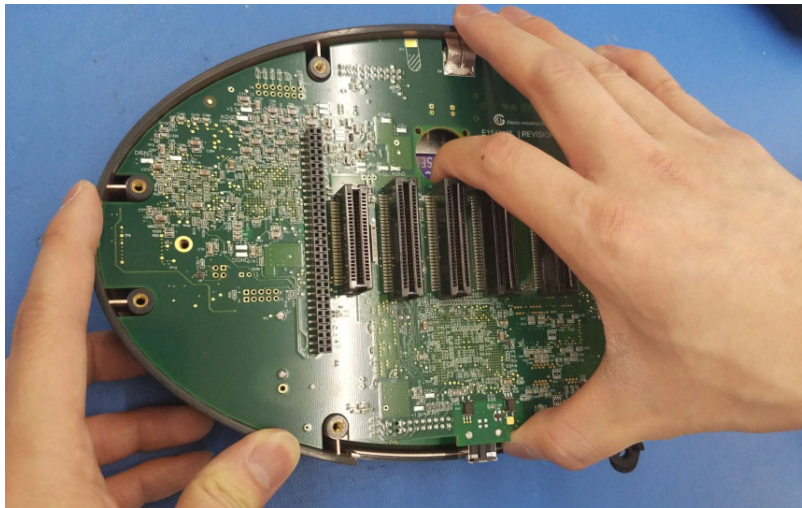

Figure 3-20: Aligning the Digital Board and the Front Panel Board
15. Check that the digital board headers have no bent pins, and then align the headers and connectors of the digital board and the front panel board. Carefully push the main digital board on to the front panel display making sure the connectors are aligned. Once fully seated, secure the main digital board to the front panel using two pan head screws. See Figure 3-20.